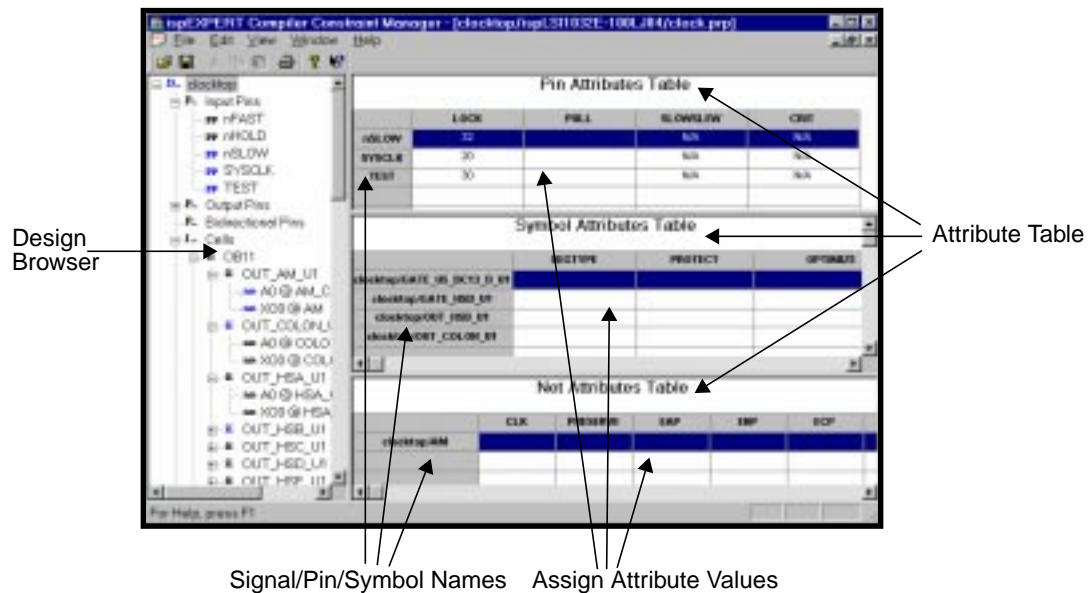

Figure 4-1. Constraint Manager Main Window
2. In the Processes window, double click Constraint Manager. The main window of the Constraint Manager appears (Figure 4-1).